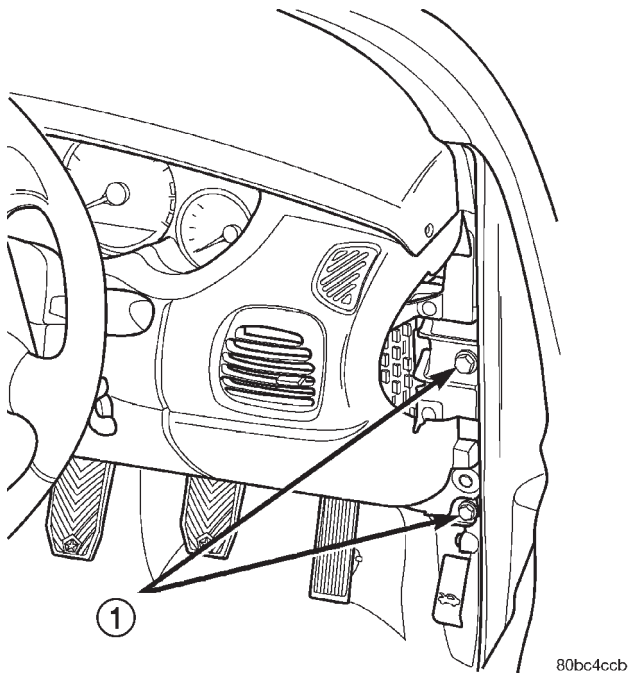
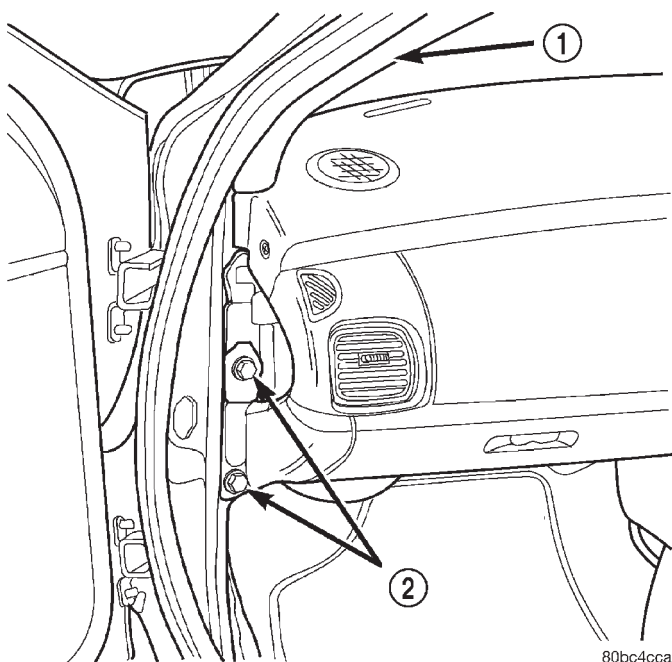

Fig. 14 Right I. P. Retaining Bolts
Fig. 15 Left I. P. Retaining Bolts
(29) Remove the (4) I. P. retaining bolts from the right and left side body side cowls (Fig. 14) (Fig. 15).
(30) With assistance from another person, guide the HVAC control head through the I. P. opening while removing the instrument panel.